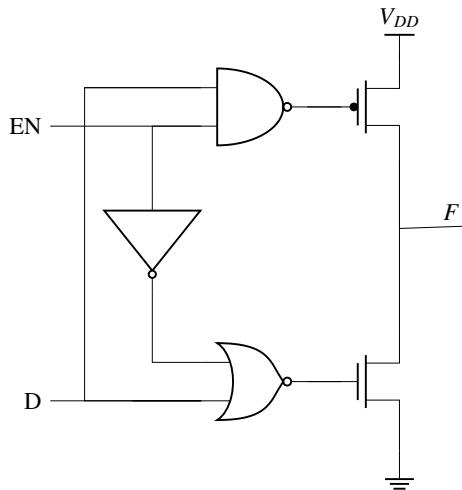

Fig. 3.11: Circuit Diagram
25. In the circuit shown in Fig. 3.11, what are the values of  $F$  for  $EN = 0$  and  $EN = 1$ , respectively?